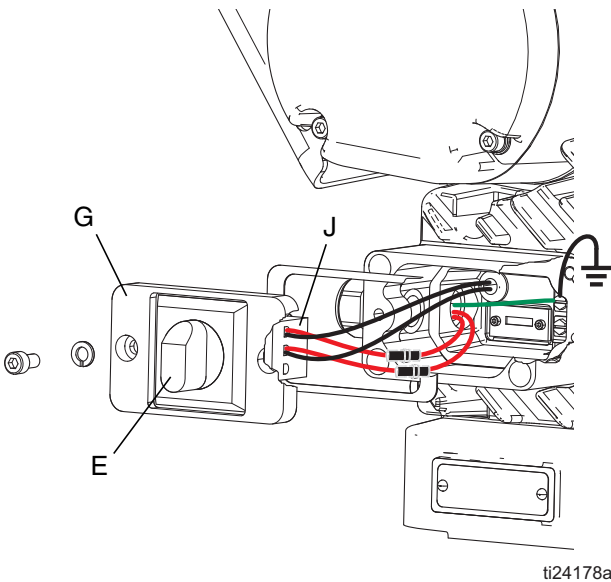

FIG. 4: Grounding Wire
- Place fan wires and other power wires into open area on either side of disconnect block (J) as space permits. Reinstall junction box cover. See FIG. 4.